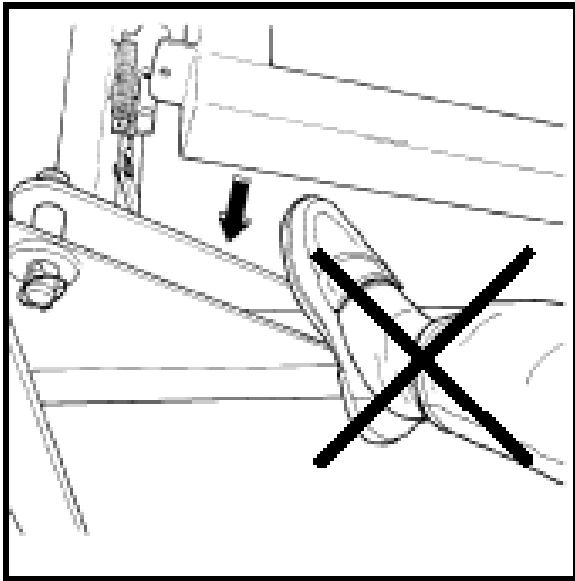

Fig. 2-2
2. When the wrapping of a bale is complete and tipped off the machine, the turntable has to be tipped back before wrapping next bale. When the middle frame with turntable is lowered, there is a squeeze danger between the middle frame and the main frame on both sides and in the back end of the machine. Keep therefore fingers and feet in safe distance. (Fig. 2-2).